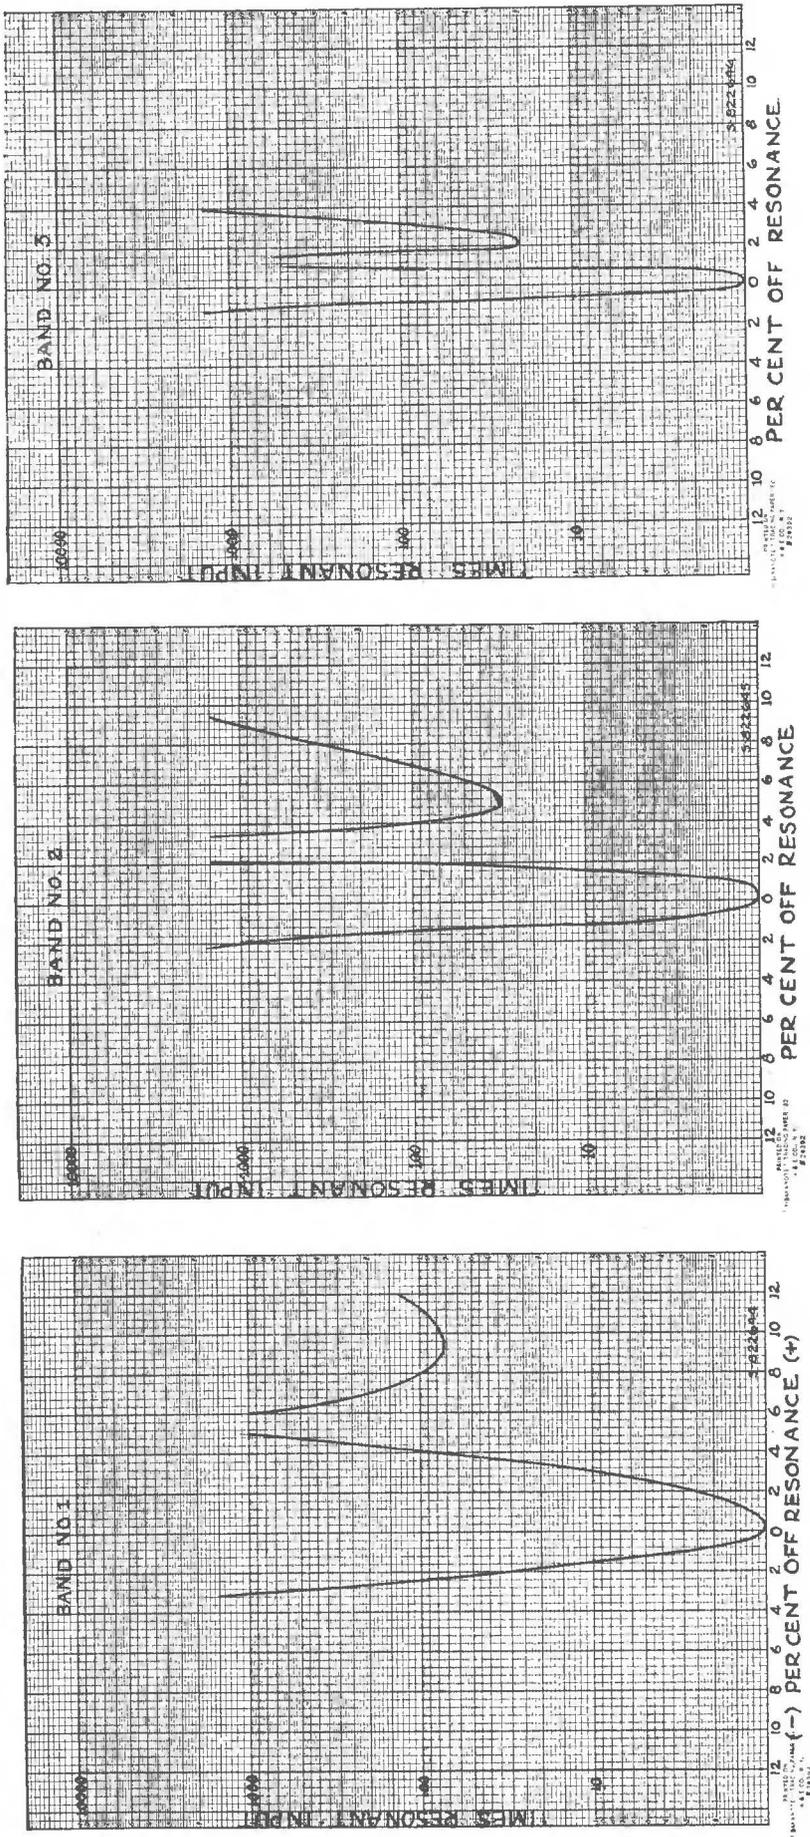

Figure 10—Average Selectivity Curve—CW Interference—Bands 1, 2 and 3
11.3-1 Figure 10 shows CW selectivity characteristics for bands 1, 2, and 3. The curves correspond closely with actual conditions at the middle of the band and represent an average for the band. These data are taken by first adjusting the receiver as for sensitivity measurements (par. 11.1) with 6 mw. output at resonance. The input (CW) signal frequency is then varied and the ratios of input off resonance (required to produce 6 mw. output) to the normal (resonant) input is noted. The break in the curve denotes the point where the signal is at *zero beat* with the autodyne detector.